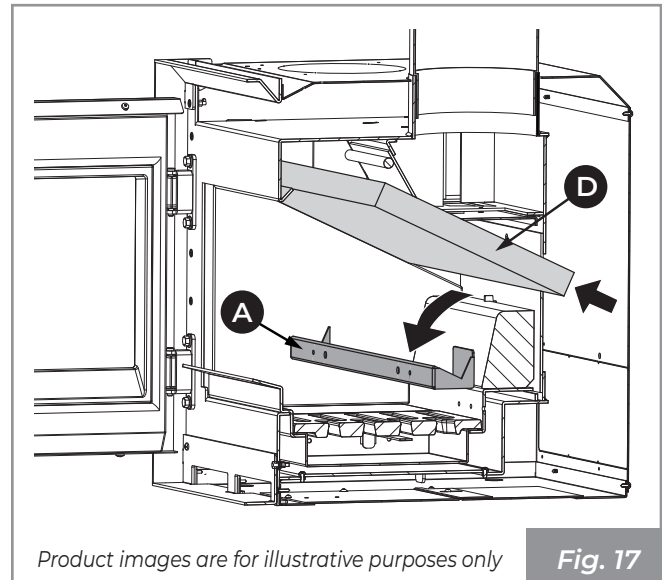

Fig. 17
#### 1. Fig. 17 only for ECOPALEX GTM-70
Lift the deflector (D) and remove the post-combustion plate (A) (Fig. 17).